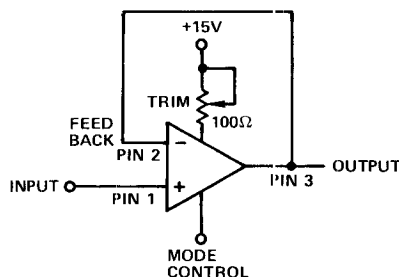

Figure 2.
1. Figure 2 shows feedback connections to the SHA-2A for the unity gain follower mode. Output (pin #3) is connected to feedback (or – input, pin #2). Input signal is applied to pin #1.